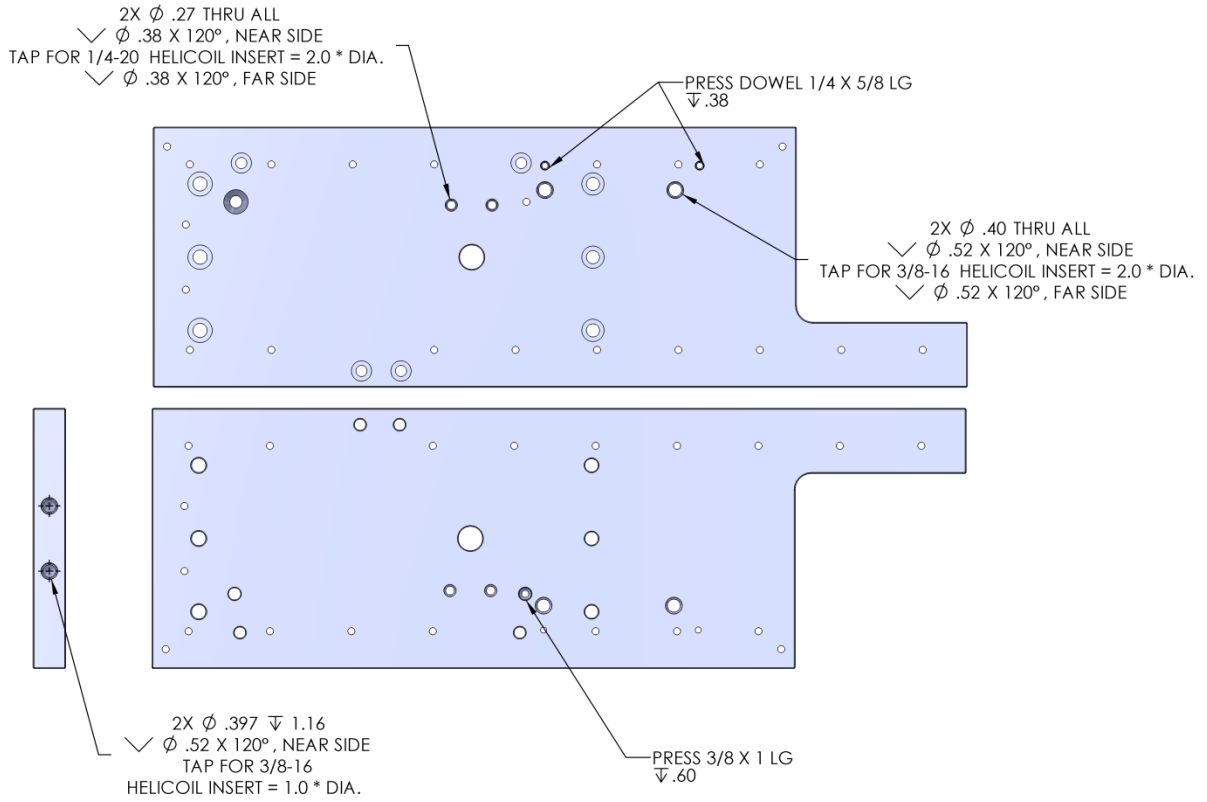

Figure 17
1. Apply helicoils and dowel pins as shown Figure 17